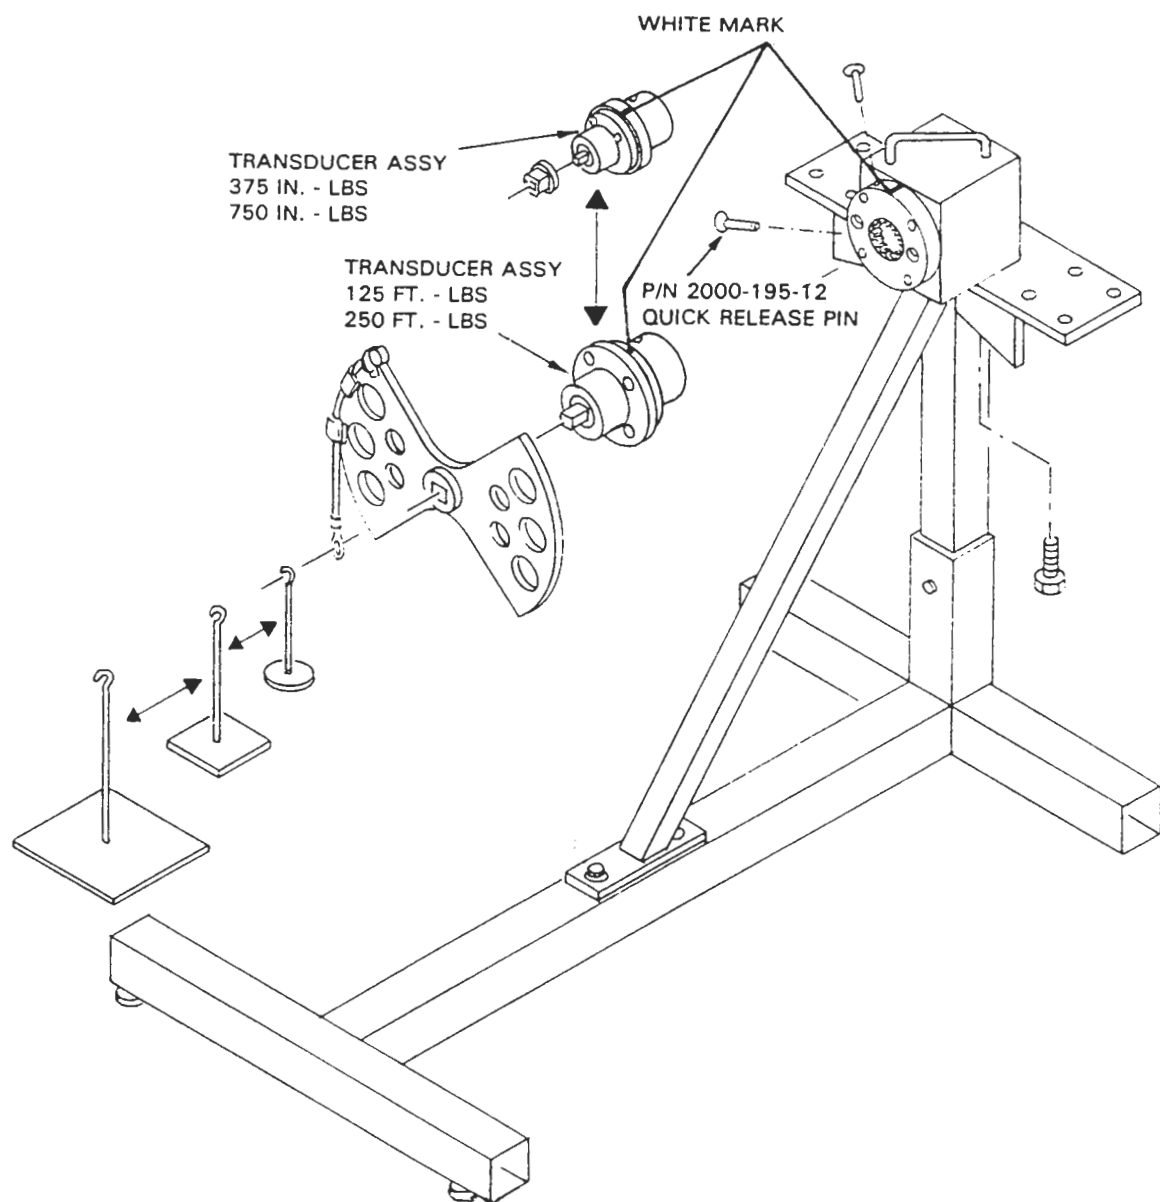
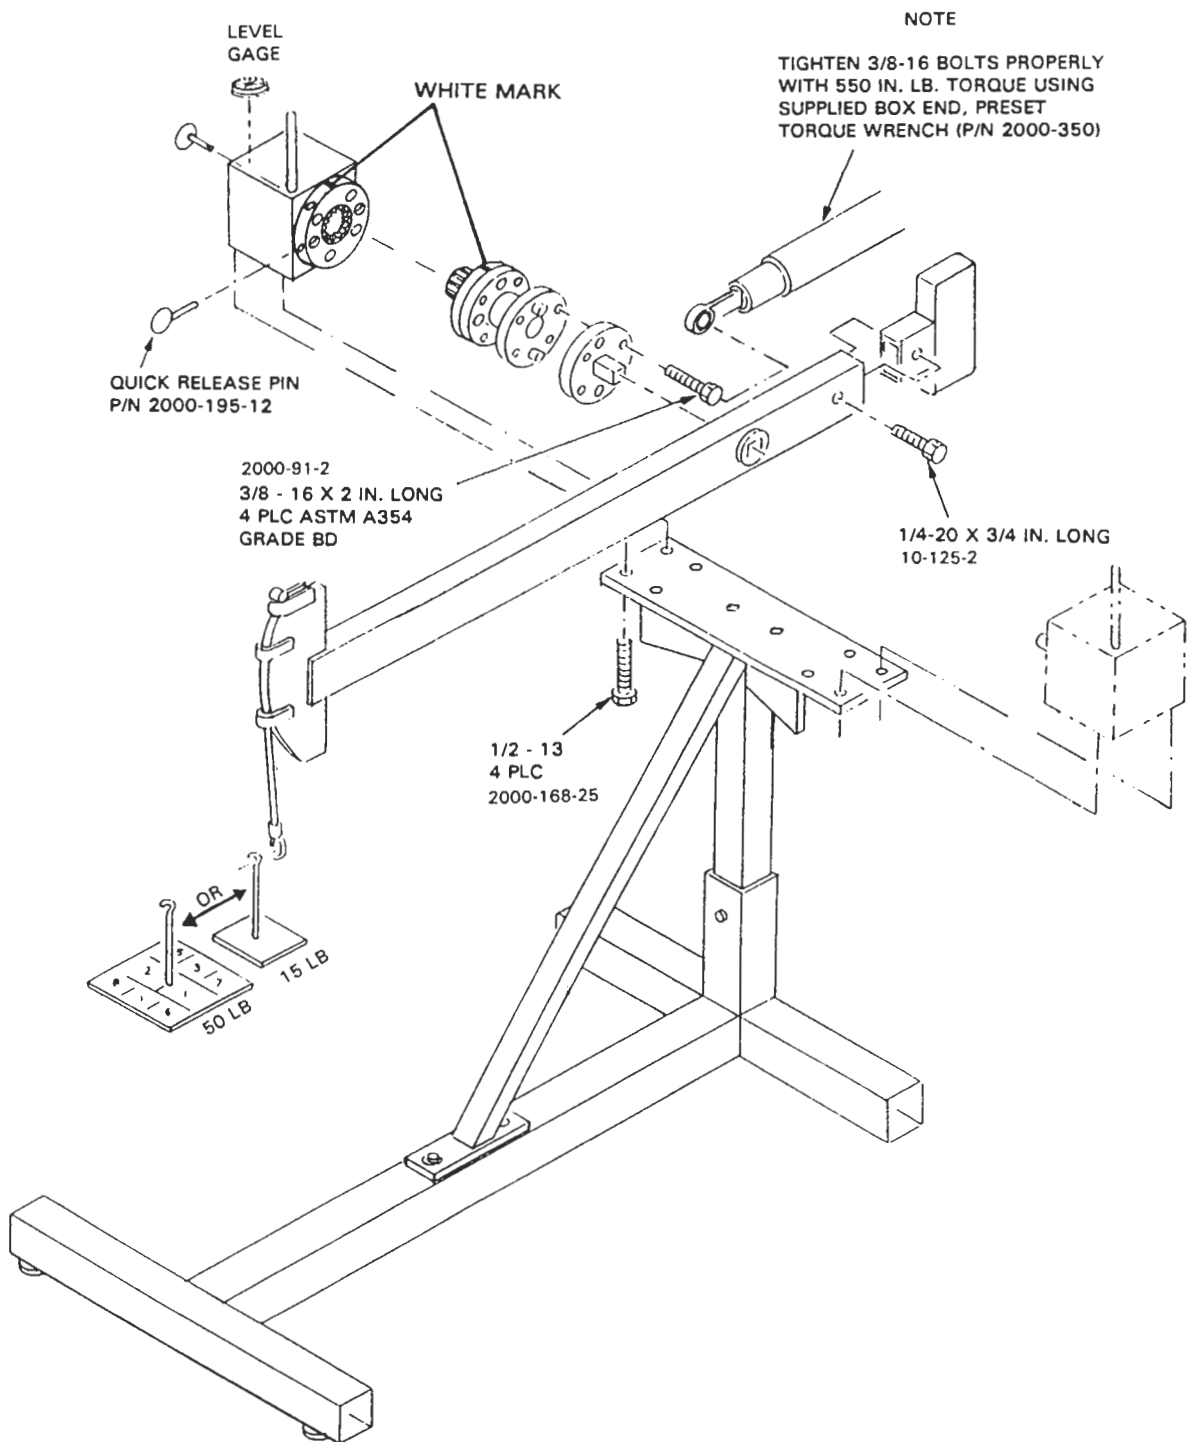

Figure 3-11. High Torque Station Accuracy Check Setup for 375 In. Lb, 750-In. Lb, 125 Ft. Lb. and 250 Ft. Lb. Transducers
Figure 3-12. High Torque Station Accuracy Check Setup for 500 Ft. Lb, 1000 Ft. Lb. and 2000 Ft. Lb. Transducers
a. Mount the transducer assembly in the calibration block assembly by aligning the white orientation marks. Secure with two quick release pins (Part # 2000-195-12). Refer to Table 3-4 to determine which calibration arm, hanger and weights are to be used in setup as shown in Figure 3-11 or 3-12.
The calibration/accuracy stand, fixtures and arms must be set up and used as illustrated in figures 3-11 and 3-12. Failure to set up and use the equipment as illustrated will cause either an out-of-balance distribution of weight and/or unsafe support of the weight. Personal injury may result from the improper setup and/or use of this equipment.
Set up the High Torque Station transducers as shown in Figure 3-11 or 3-12 and follow the procedure below:
Figure 3-11 is for the 375 in. lb, 750 in. lb, 125 in. lb. and 250 ft. lb. transducers. Figure 3-12 is for the 500 ft. lb, 1000 ft. lb. and 2000 ft. lb. transducers.